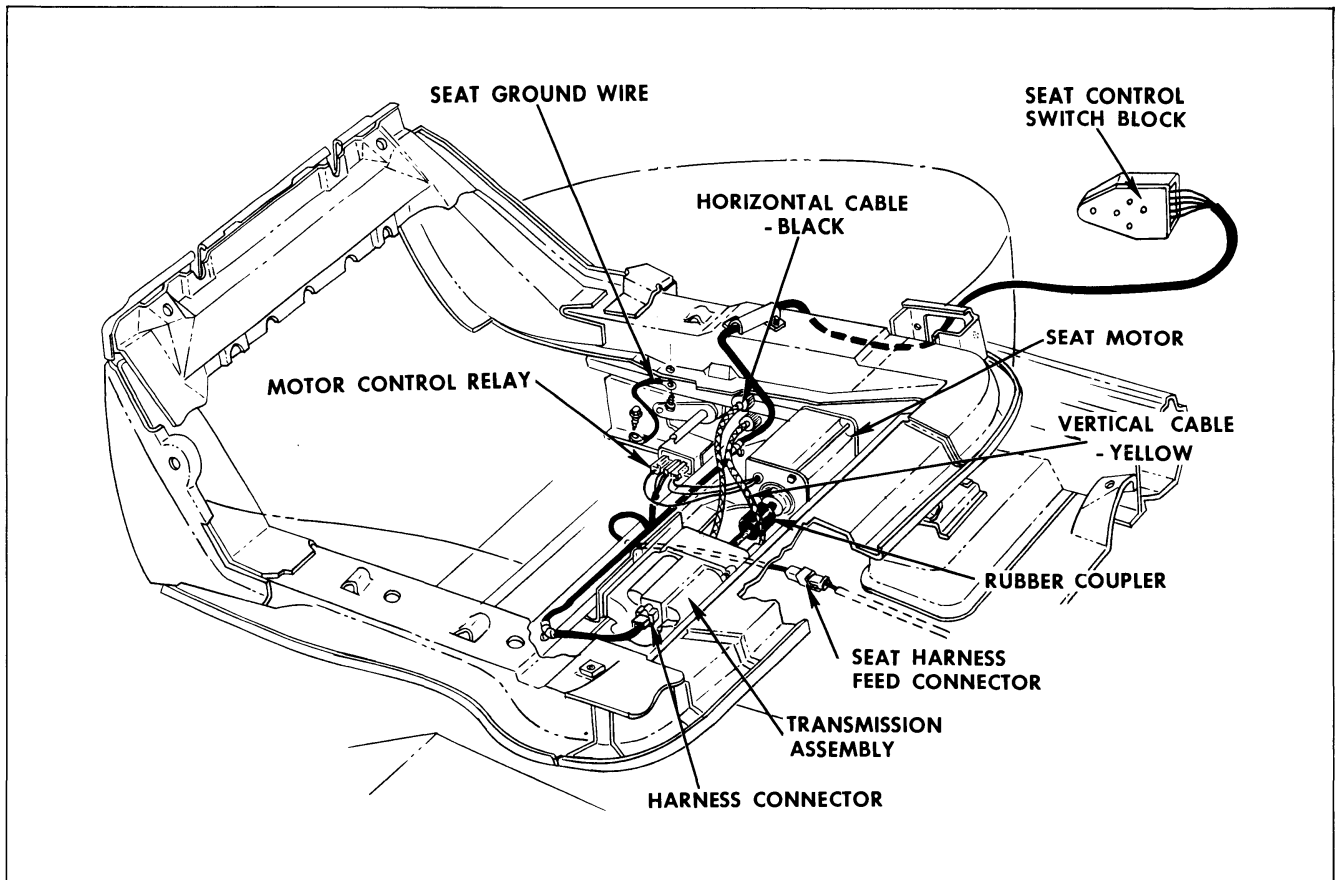

Fig. 22-7 4-Way Seat Installation
2. Disconnect wire harness from motor relay. (Fig. 22-7).
4. To install, reverse removal procedure making sure rubber coupling is properly engaged at both motor and transmission ends. (Fig. 22-7).
3. Remove screws securing horizontal and vertical cable end plate on side of transmission from which cables are being removed and remove cables from seat (Fig. 22-7).
2. Disconnect wire harness connector from transmission (Fig. 22-7).